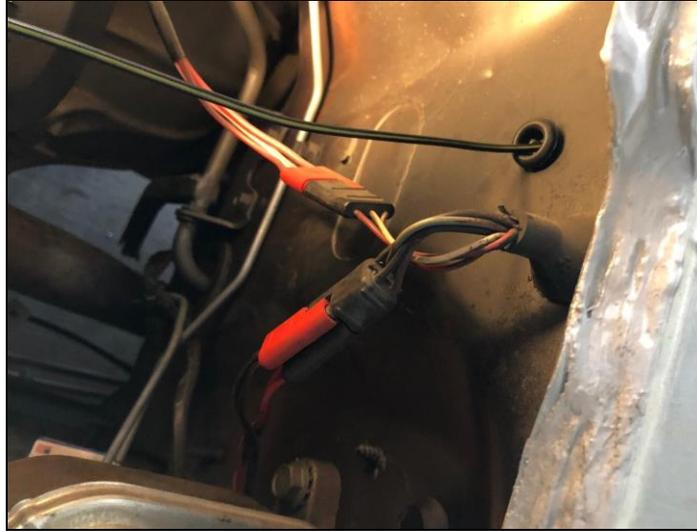

Figure 10
11. You will need to drill a 15/32 hole in the firewall for the black/yellow wire with the grommet to connect to the negative coil. If you are using a MSD ignition or similar, you will need a tach adapter (**Figure 10**).